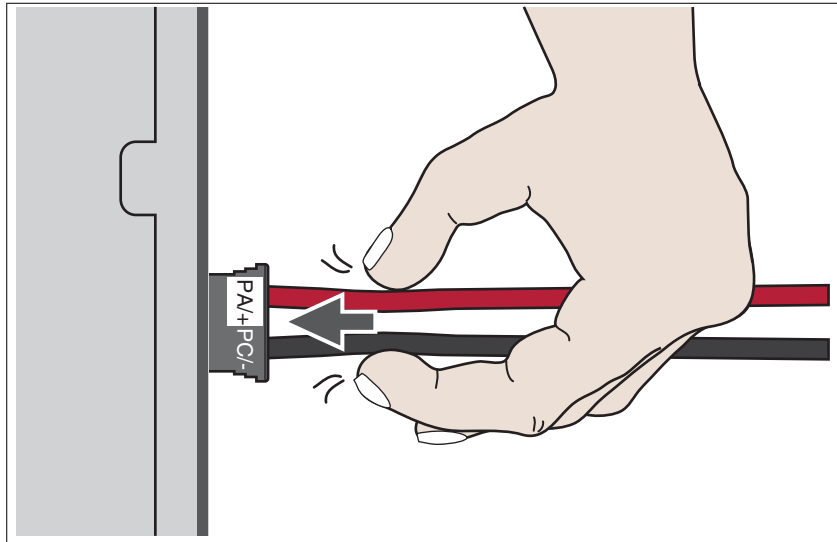

Figure 16: Unlocking the DC bus connector, step 1: Push cables towards connector.
- ▶ Push the two wires towards the connector (see Figure 16).